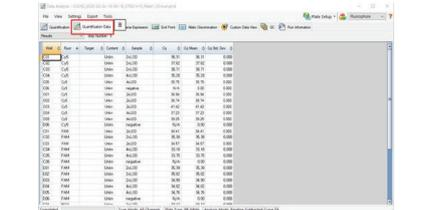

Figure 5. CFX Manager™ Software v3.1 Quantification Data Window
- 8 Analyze data in "Quantification" menu (#8) (Figure 5).